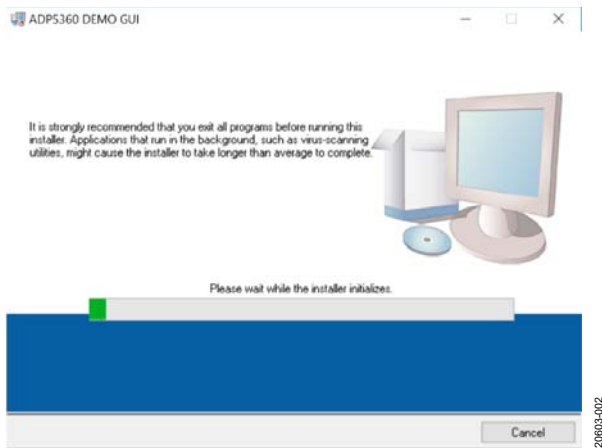

Figure 2. ADP5360 Evaluation Software Setup
1. Launch the **Setup.exe** file, which is downloaded from the ADP5360CB-EVALZ product page. After the file has been launched, the dialog box shown in Figure 2 appears.